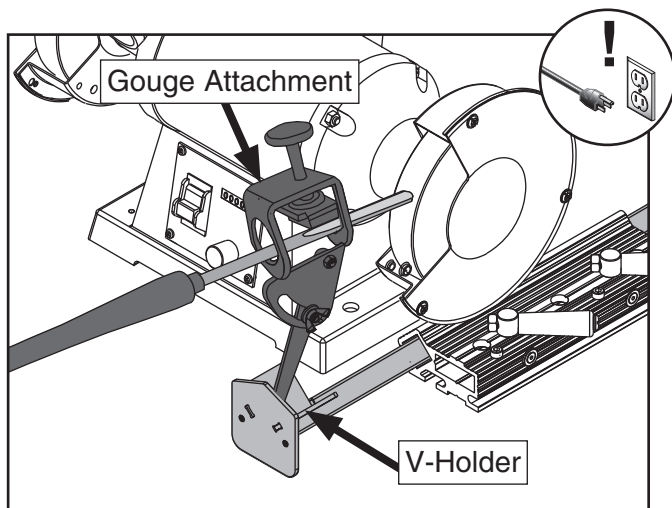

Figure 3. Gouge attachment resting in V-holder.
3. Rest gouge attachment arm in V-holder and adjust long arm until gouge bevel contacts grinding wheel (see **Figure 3**).